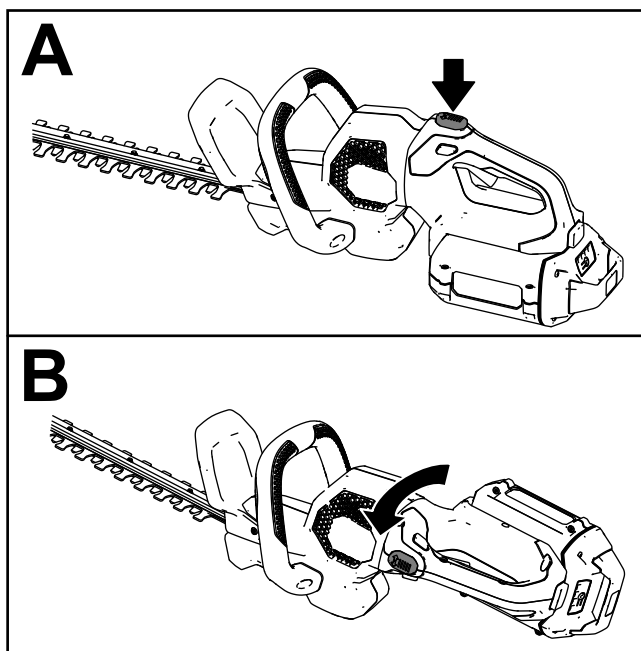

Figure 8
1. Press and hold the rotational lock button (A of Figure 8).
2. Rotate the handle 90° to the right or left depending on desired cutting direction, then release the rotational lock button to lock the handle in the desired position (B of Figure 8).